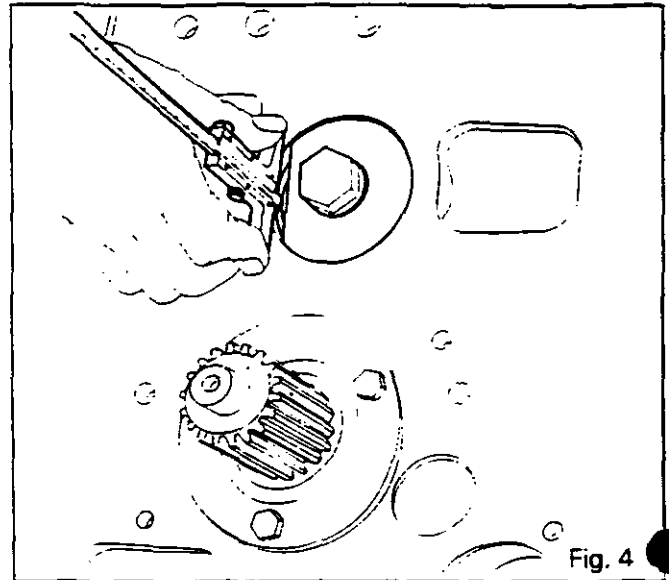

Fig. 4
25. Shim the layshaft (see Fig. 4) to obtain a play of:
5. Slacken off the castellated nut (21) using spanner 3615334 M1 (see Fig. 4).